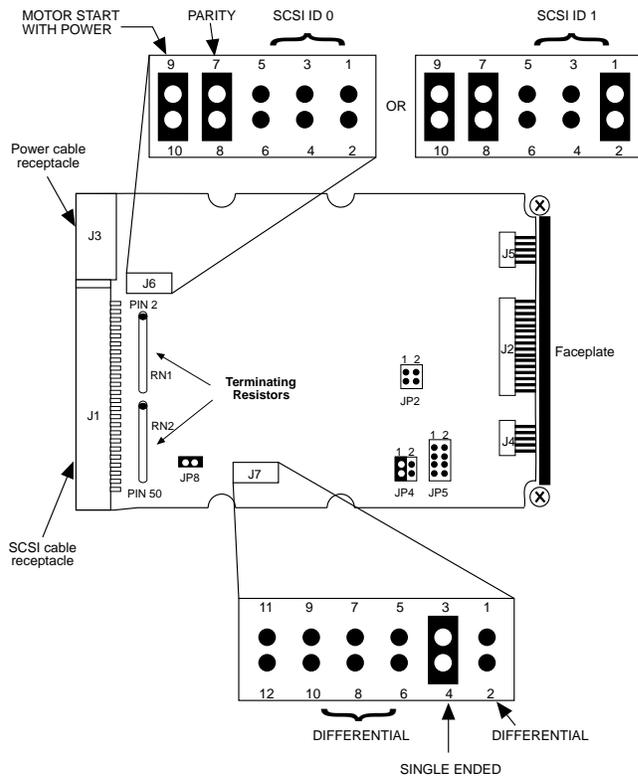

Figure 4-2. SCSI Hard Disk Drive – Circuitry Side Up
8. Verify that all jumpers are correctly positioned as shown in Figure 4-2.
9. Remove the 2 Phillips head screws hold the small black plastic faceplate. Discard all these items (Figure 4-2).
10. Remove the terminating resistor SIPs, RN1 and RN2, using needle nose pliers. Discard the SIPs (Figure 4-2).